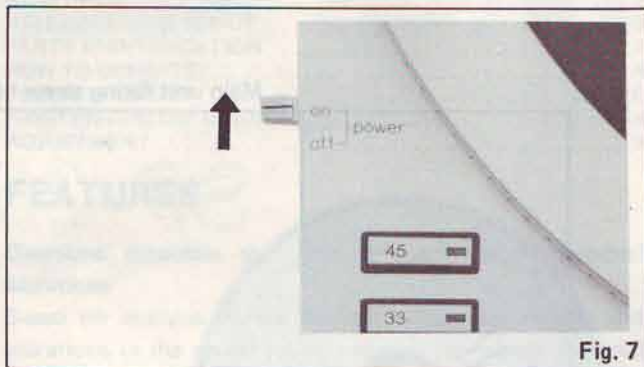

Fig. 7
1. Set the power switch to the "on" position. (See Fig. 7.)